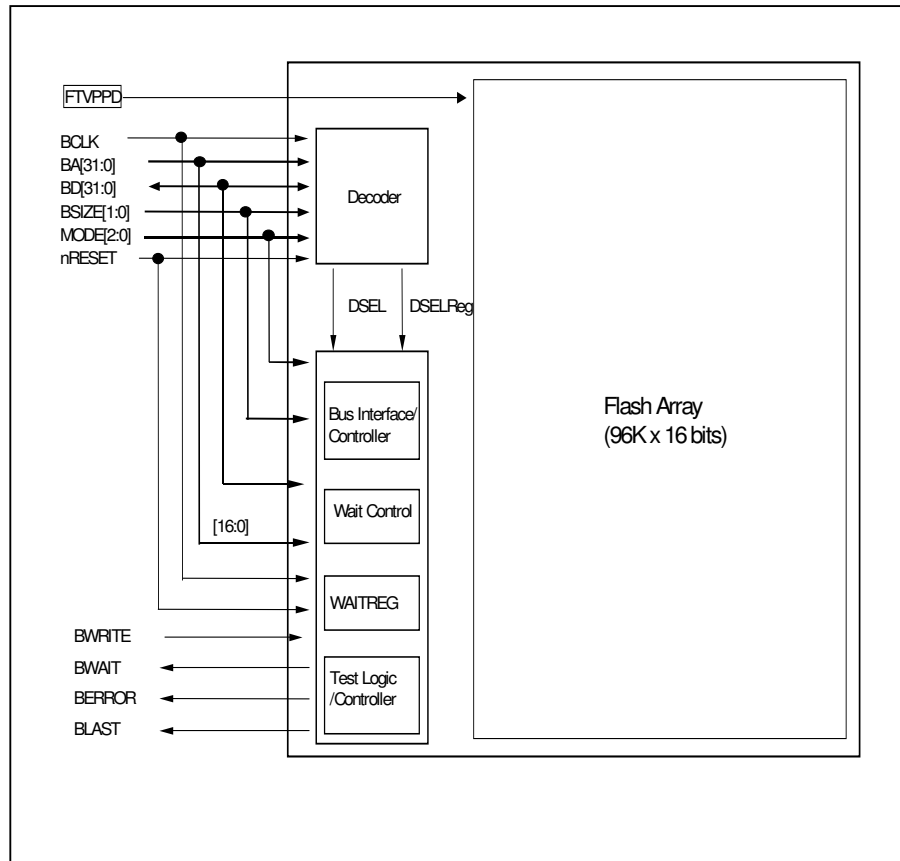

Figure 12.1 Block Diagram of Flash Memory
**Table 12.2 Signal description of Figure 12.1(BUS Interface)**